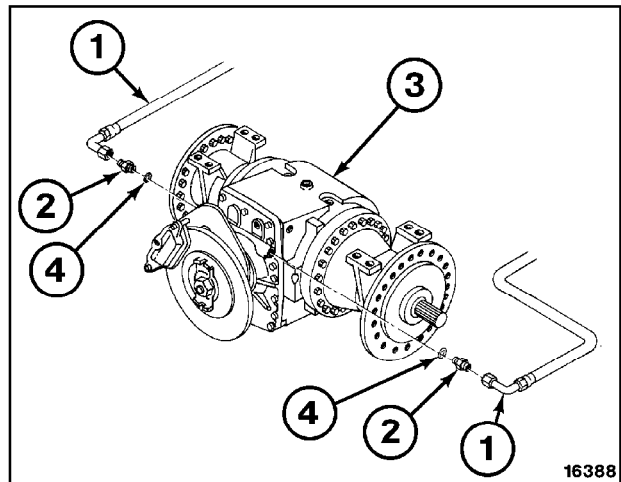

Figure 63
- B. Tag and disconnect brake hose (1, Figure 63) from fitting (2) on each side of final drive (3).
- E. Reconnect hose (1, Figure 63) to fitting (2) on each side of final drive (3). Refer to appropriate "Final Drive Assembly" shop manual section for brake bleeding procedure when cylinder installation is completed.